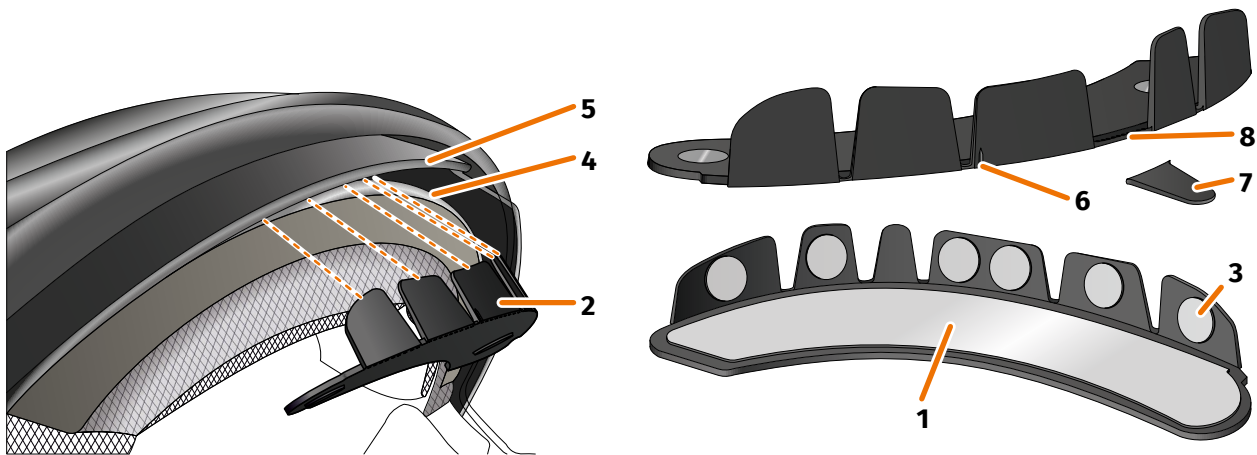

FIGURE 10 // Gluing in the helmet adapter with tabs
1. Apply the large adhesive pad (FIGURE 10/1) to the side of the helmet adapter (FIGURE 10/2) on which you can see the magnets.
2. Apply the small adhesive pads (FIGURE 10/3) to the insides of the tabs.
3. Place the helmet adapter (FIGURE 10/2) in the forehead section of the helmet between the interior shell (FIGURE 10/4) and the sun visor (FIGURE 10/5). At the front of the helmet adapter, there is a mark (FIGURE 10/6) that should be placed on an imaginary line between the middle of your helmet and the middle of your face. Make sure the helmet adapter does not collide with the sun visor.
If you notice that individual tabs collide with the helmet material, you can simply break off up to three tabs (FIGURE 10/7, for example). The helmet adapter is perforated at the lower edge of the tabs (FIGURE 10/8) to facilitate break off.